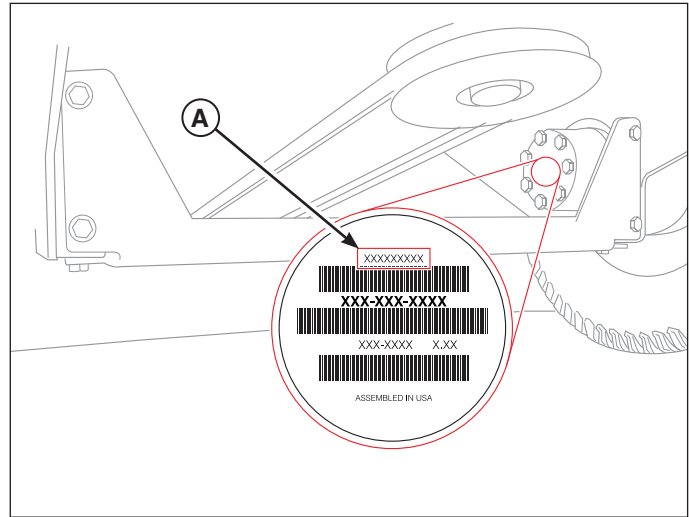

Figure 2. Locating the Wheel Motor Serial Number
3. Refer to Figure 2. Inspect the serial number of the wheel motor. **If the serial number falls in the range of 8076LXXXX - 9017LXXXX, continue with CORRECTIVE PROCEDURES.** If the serial number does not fall in the range of 8076LXXXX - 9017LXXXX no further action is required.
In addition to the information below, **you must also include the serial number of the wheel motors that you update when filing your warranty claim.** See Figure 2 for the location of the serial number on your wheel motor. Include the wheel motor serial numbers in the “Component Serial Number / Date Code” box under the “Equipment Section” of your warranty claim.